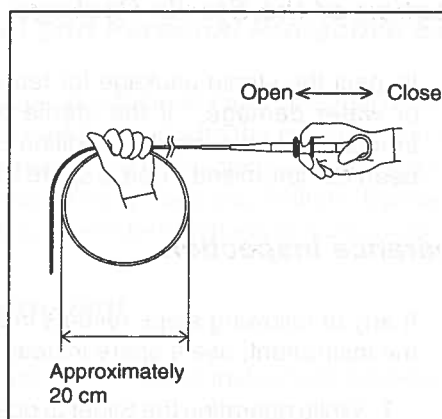

Figure 3.1
1. Holding the instrument as shown in Figure 3.1, form a loop in the Insertion Portion approximately 20 cm in diameter.